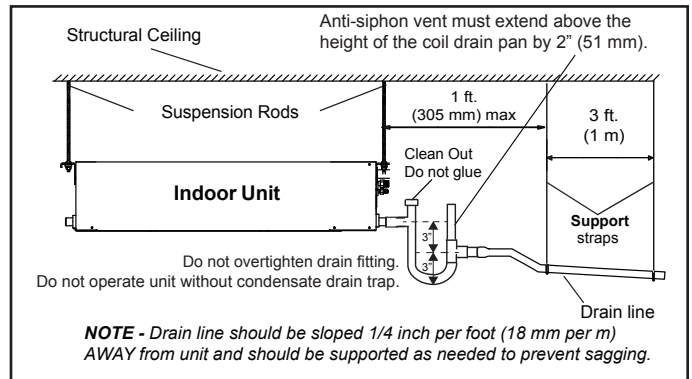

Figure 17. Sloped Condensate Gravity Drain Single Unit
3. See Figure 17 for applications including a single unit and a single gravity drain. In this case, ensure that the drain line is properly sloped (no less than 1/4 inch per foot) and condensate lines are routed to ensure moisture is drained away from the indoor unit. A gravity drain connection port is located on the side of the unit with the refrigerant piping and on the opposite side of the unit. Select one connection to use and leave the unused connection port sealed. Seal and plug the lift pump connection port when using either gravity drain connection port. Disconnect the factory-installed lift pump, CN 13.